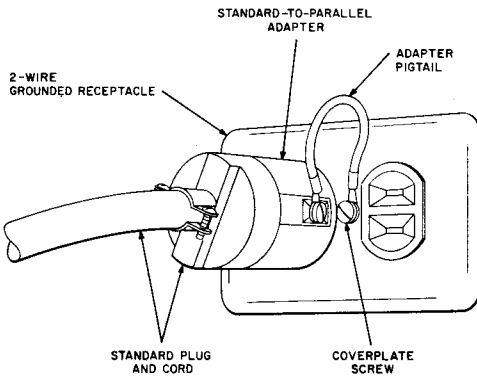
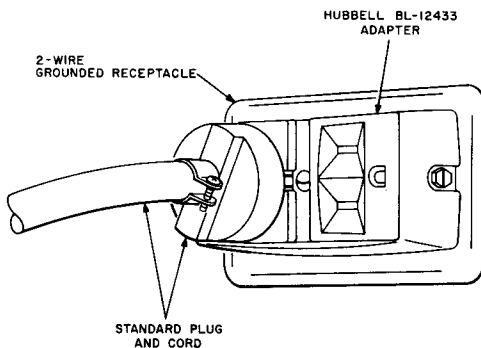

Fig. 3 — Grounded Outlet Box
Fig. 4 — Grounded Outlet Box
C. Parallel Receptacles — Grounded Outlet Box (See Fig. 3 and 4.)
outlet boxes should be grounded. The pigtail of the adapter shown in Figure 3 makes a ground connection to the center screw. The center screw of the adapter shown in Figure 4 makes a ground connection and a pigtail is not required when the adapter is used with grounded outlet boxes.